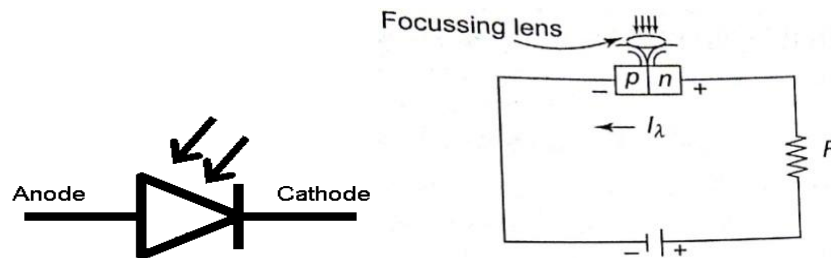

Fig.21: Symbol and construction of Photo Diode
**Photo Diode:** It is a PN junction or PIN semiconductor device that consumes light energy to produce electric current. It is also called as photo detector, light detector or photo sensor. Diodes are designed to work in reverse bias condition. These diodes have slow response time. Symbol and circuit of diode as shown in Fig.21.